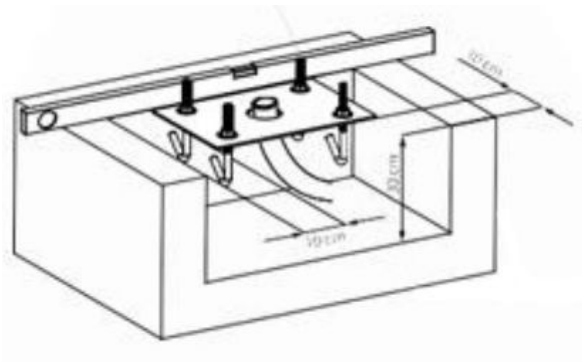

Figure 8.2
1. Provide a foundation pit and arrange one or more conduits for the passage of the electrical cabling (Figure 8.2)